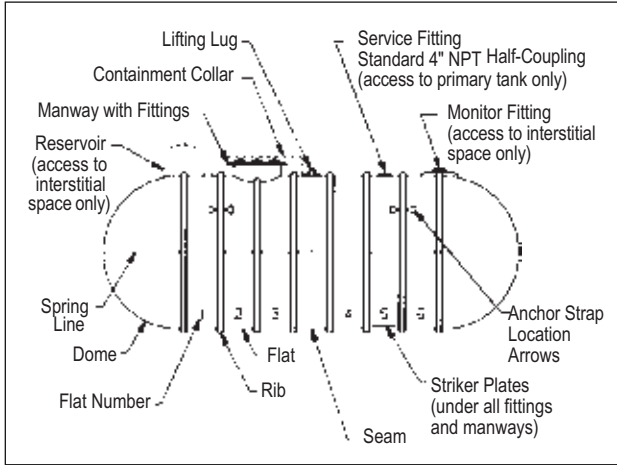
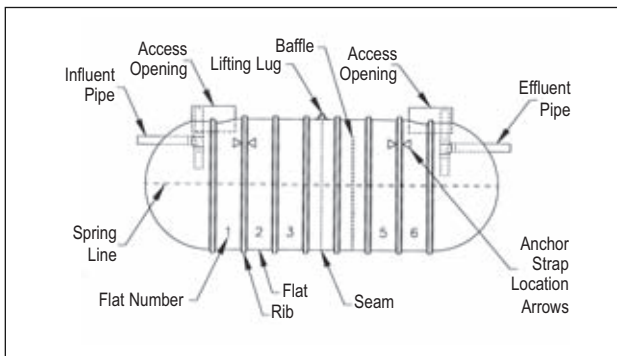

FIGURE 1-1
FIGURE 1-2
1.3.1. For terms related to a typical Xerxes tank, see FIGURE 1-1. For terms related to a Xerxes wastewater tank, see FIGURE 1-2.